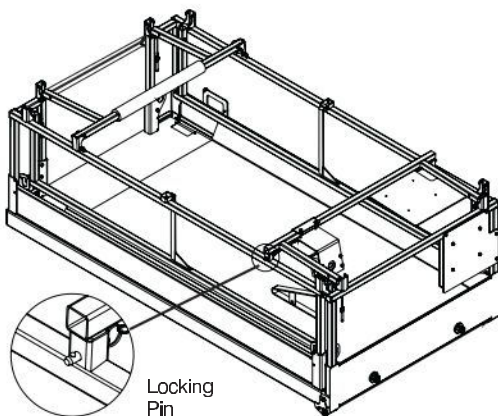

Figure 3-11c. All Guardrails Folded Down
Lock extension guardrail into place on the mounting post. Ensure that the detent ball of the pin is all the way through. (Refer to Figure 3-11c)
- Remove locking pin from mounting post and carefully raise extension guardrail up and lock into place with locking pins ensuring that the detent ball of each pin is all the way through (Refer to Figure 3-11c).